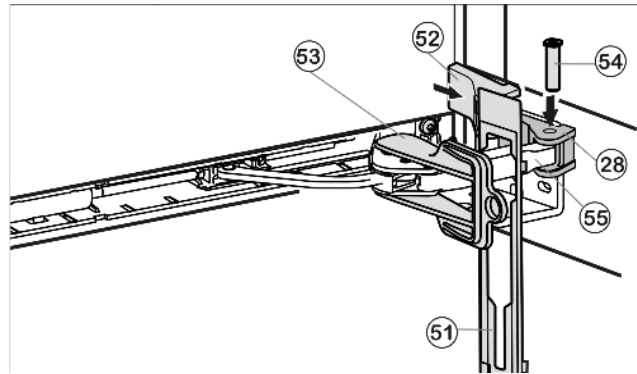

Fig. 24
- ▶ Hook panel Fig. 24 (51) into the damper bracket such that the detent hooks are pointing forward and the front side is facing the appliance.
- ▶ Pull damper bracket Fig. 24 (55) towards bearing part Fig. 24 (28) and insert bolt Fig. 24 (54) from above such that the square is resting in the recess.
- ▶ Place cover Fig. 24 (52) on top and snap into place.
- ▶ Remove locking device Fig. 24 (53) by twisting it.
- ▶ Snap panel Fig. 24 (51) into place on the door.